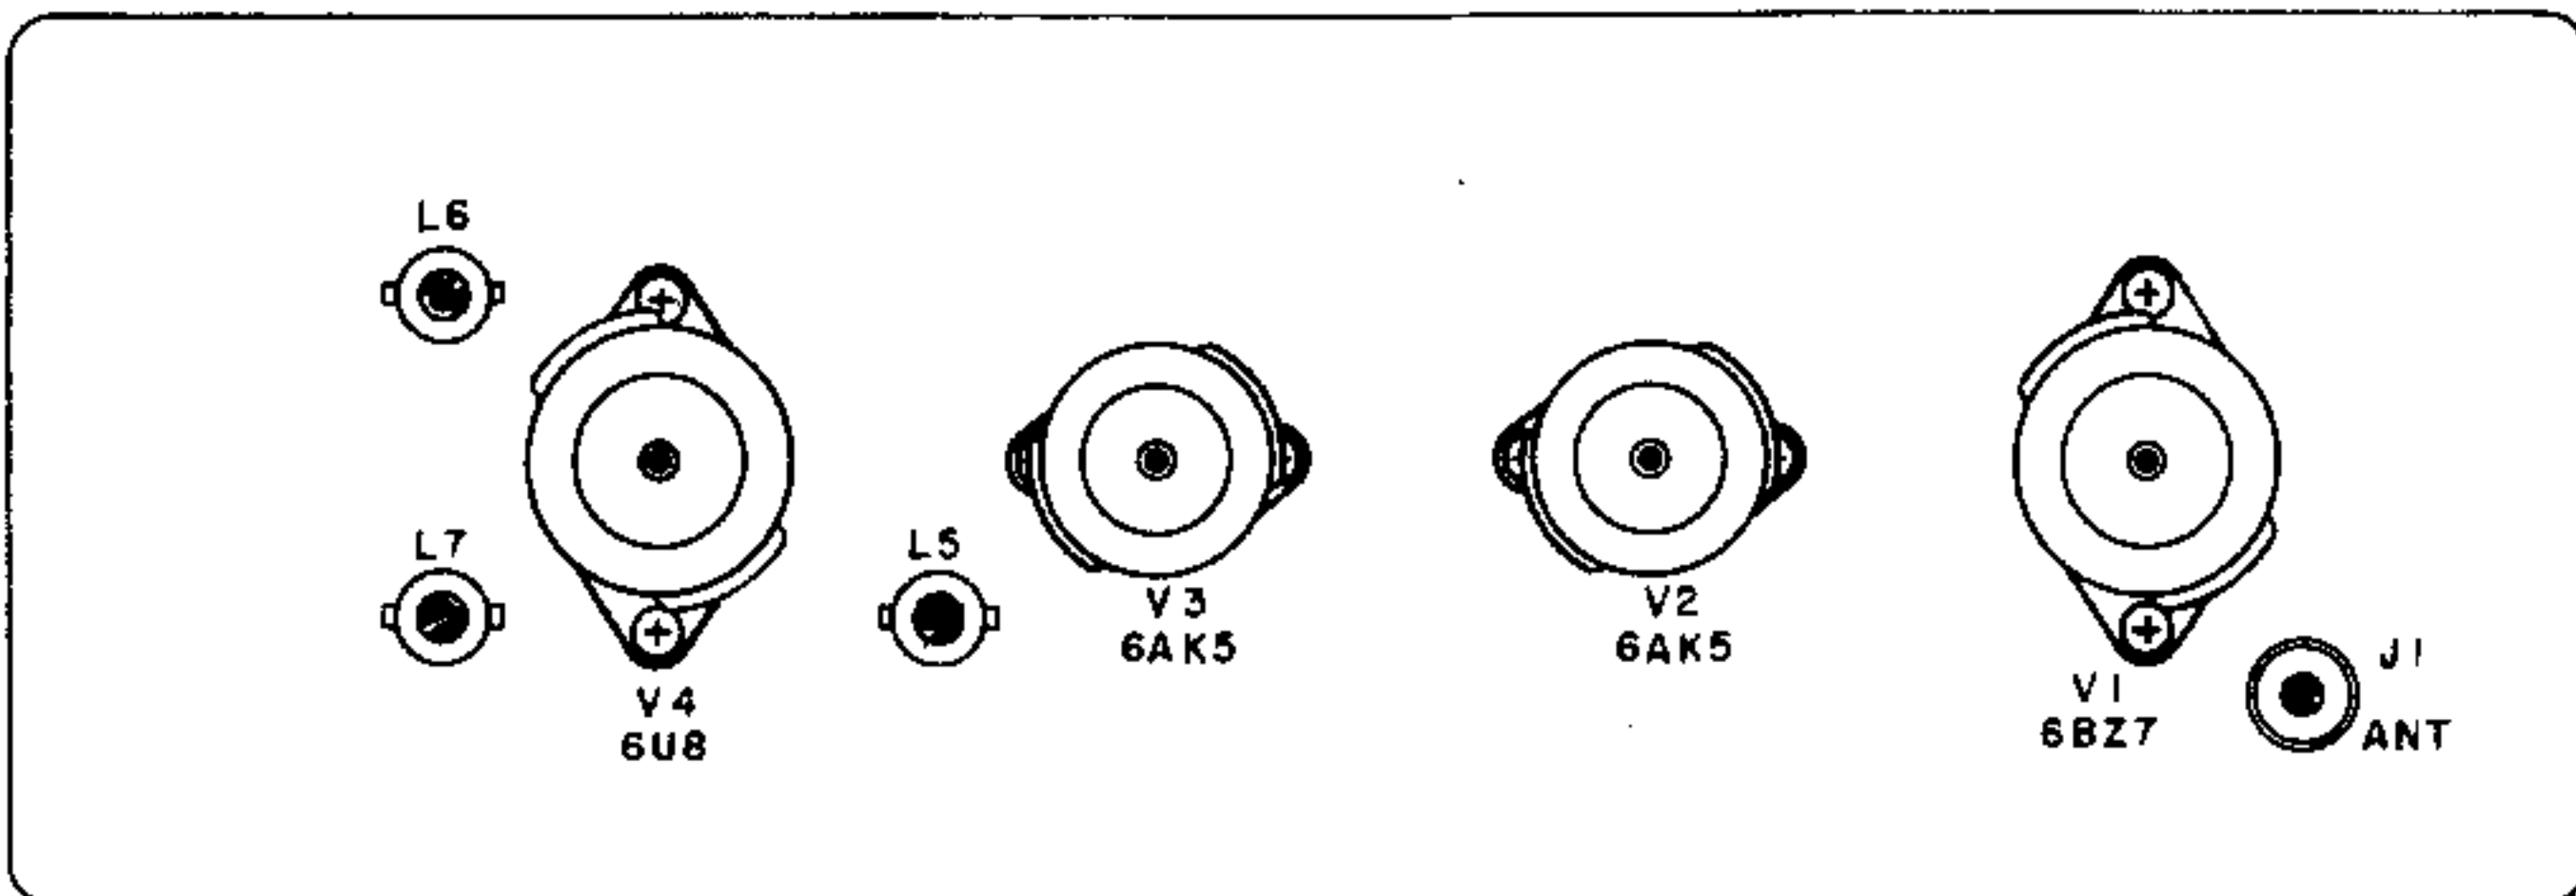

Figure 4. NC-300C2, Top View
Step 3. If oscillator adjustment is indicated, set the receiver at a known signal frequency and adjust L6 on the converter to produce a peak on the receiver S meter. See Figure 4. It will be noted that tuning will be very sharp on one side of the peak and broad on the other. Adjust L6 slightly off resonance on the broad side.